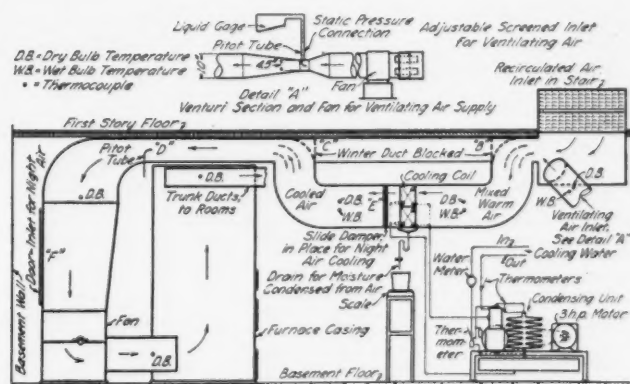

Fig. 2—Diagram of cooling plant in Research Residence during tests with mechanical refrigeration. (From Univ. of Illinois Eng. Exp. Station Bulletin 290).
- Cooled air, which upon being introduced into the room to be cooled, is warmed and returned to the cooling coil. The warm air passing over the outside surfaces of the cooling coil (Fig. 2) is cooled and dried to some extent.